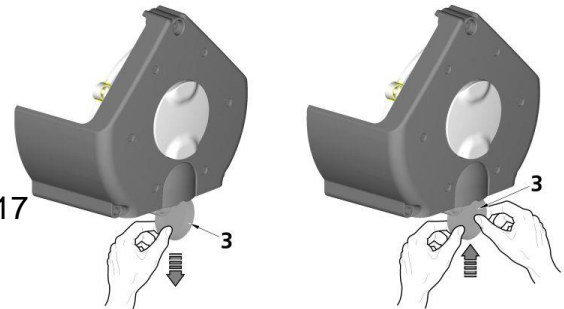

Fig. 17
17.5. Aggregate intake filter replacement (Fig. 17)